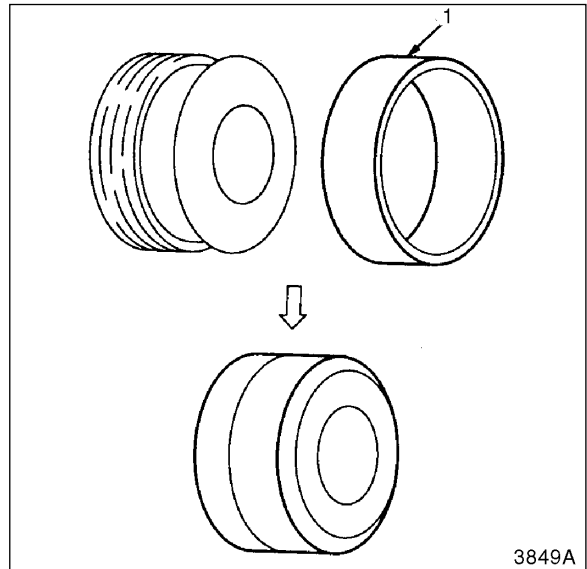

Figure 30
16. Install wear ring (1, Figure 30) on piston.